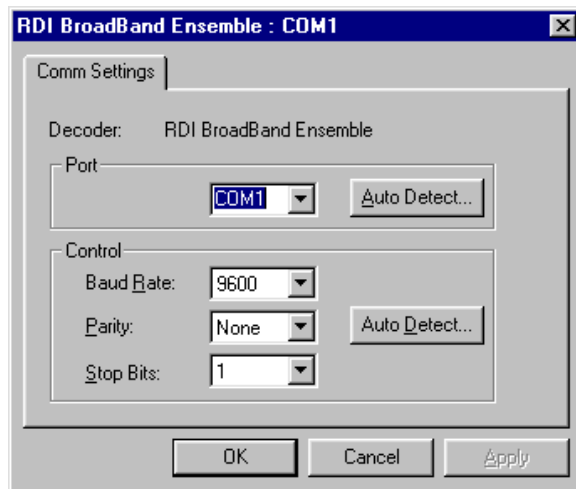

Figure 4. Communication Menu
- e. Select the COM port that the ADCP is connected to (see Figure 4). If you are unsure of the setting, use **Auto Detect**.